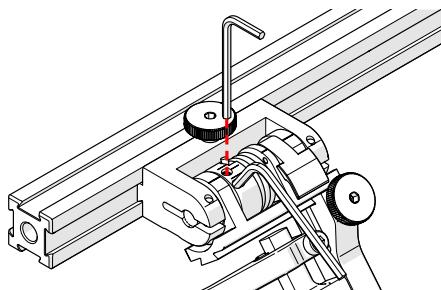

*Fig. 207 - Lift slightly and press Latch*
2. Lift probe holder slightly and press the latch button (Fig. 207) to release the probe holder the full 45° degrees.